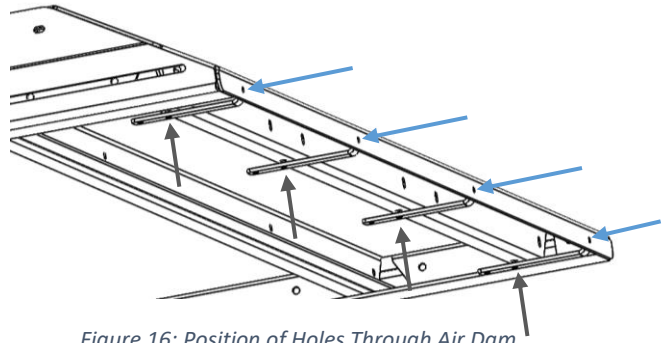

Figure 16: Position of Holes Through Air Dam
- Install the four (4) Air Dam Brackets into the front lip of the air dam in the locations as shown in Figure 16.
- Secure the Air Dam Brackets by bolting through the bottom lip of the front-most panel using the #10-32 x 5/8" hardware (bolt, washers, and nut) as shown in Figure 16.